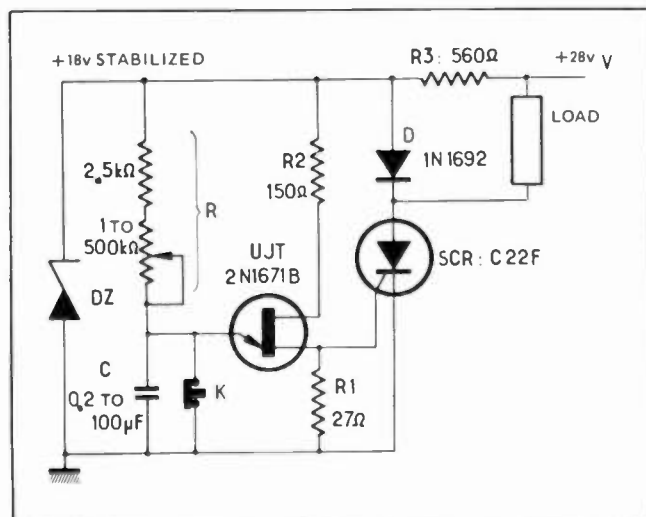

Fig. 31—Timer circuit using a UJT-controlled thyristor.
Slightly modified and DC-fed, this circuit becomes a timer featuring fair accuracy. (Fig. 31.) Pressing normally-closed push-button K removes the short across capacitor C and allows C to start charging. After a time delay, depending on time constant RC, the UJT fires and triggers the SCR. All of the supply voltage (except for the low voltage drop across the SCR) is then applied to the load. Diode D and series resistor R3 deliver a holding current (IO) to the SCR to make sure it stays in the conducting state should the load be disconnected. The delay-determining charging voltage is stabilized by zener diode DZ.